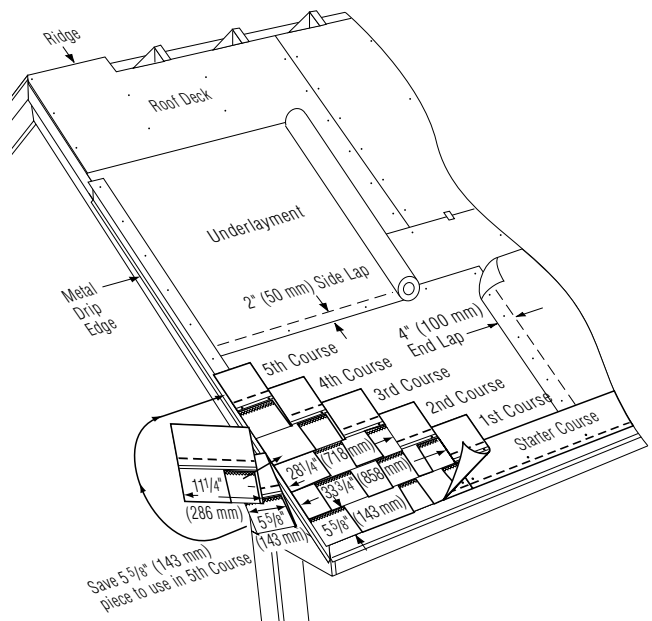

Figure 15-10: Applying the first 5 courses on a standard slope.
1ST COURSE: Apply a full shingle at the lower left corner of the roof. Make the lower edge and left edge lie flush with the edges of the starter course (Figure 15-10).
1. Cut $5\frac{5}{8}$ " off the left end of the first shingle and save this piece for later use. Apply the $33\frac{3}{4}$ " long piece over and above the first-course shingle. Leave the bottom $5\frac{5}{8}$ " tab portion of the first-course shingle exposed (Figure 15-10).